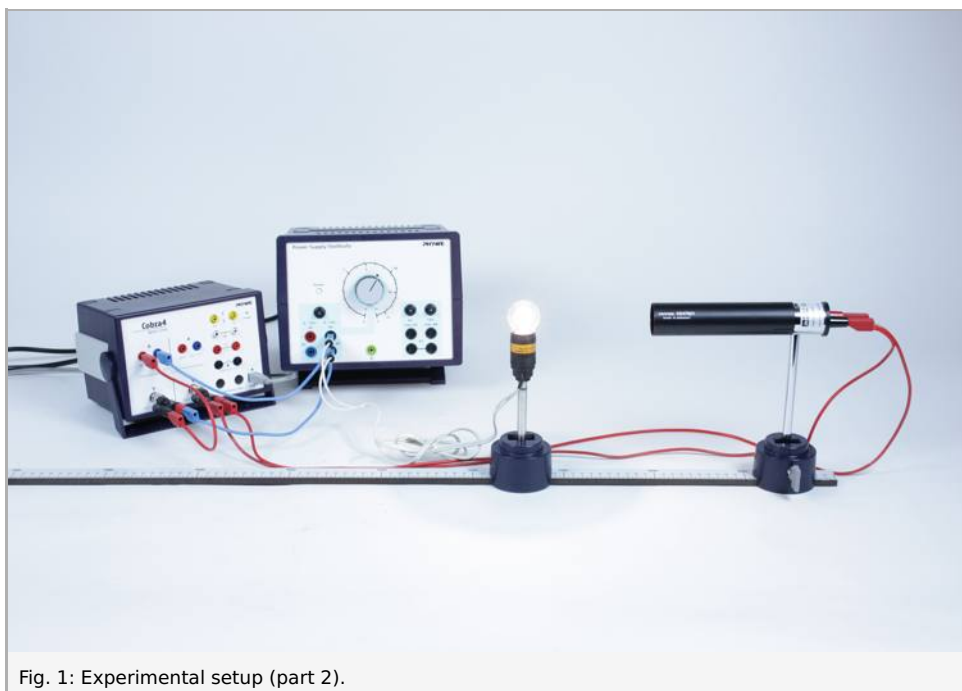

Fig. 1: Experimental setup (part 2).
2. Now set up the equipment according to Fig. 1 and align the thermopile in a way that it receives the lamp's radiation with the distance between lamp and thermopile less than 20 cm. The helix of the filament should be at right angle to the thermopile.